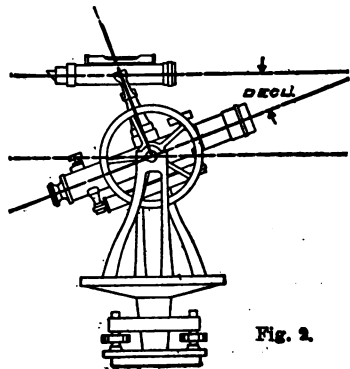

Fig. 2.
2. Bring the solar telescope into the vertical plane of the transit telescope, (without disturbing the position of the latter) and also to a horizontal position by means of its level. The two telescopes will now enclose an angle equal to the amount of the declination. See Fig. 2.